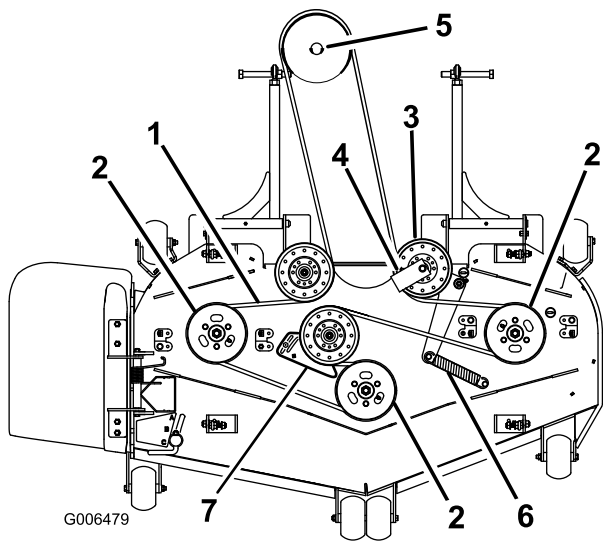
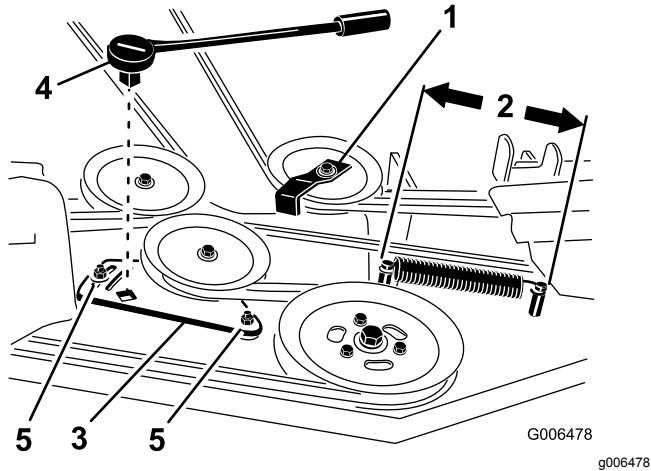

Figure 75
Figure 77
4. For 72-inch mowers, loosen the idler plate bolts holding the idler plate (Figure 77).
6. Remove the belt guide on the spring-loaded idler pulley shown in Figure 75 and Figure 77.
8. Install the new belt around the mower pulleys and the gearbox pulley under the engine (Figure 75).
9. Install the belt guide on the spring-loaded idler at a 45 degree angle as shown in Figure 75 and Figure 77. Torque the bolt to 37 to 45 N·m (27 to 33 ft·lb).
10. Install the idler spring to the 2 posts (Figure 75 and Figure 77).
4. Measure the spring length (Figure 77). If the spring length is between 25.4 to 26 cm (10 to 10-1/4 inches), from post to post, no adjustment is needed.
5. Loosen the bolts holding the idler plate (Figure 77).
6. Insert a ratchet or breaker bar into the square hole in the idler plate to adjust the tension (Figure 77).
7. Rotate the ratchet or breaker bar to move the idler plate until the idler spring is between 25.4 to 26.0 cm (10 to 10-1/4 inches) from post to post as shown in Figure 77.
8. While holding the belt tension and spring length, tighten the idler plate bolts that secure the idler plate (Figure 77).